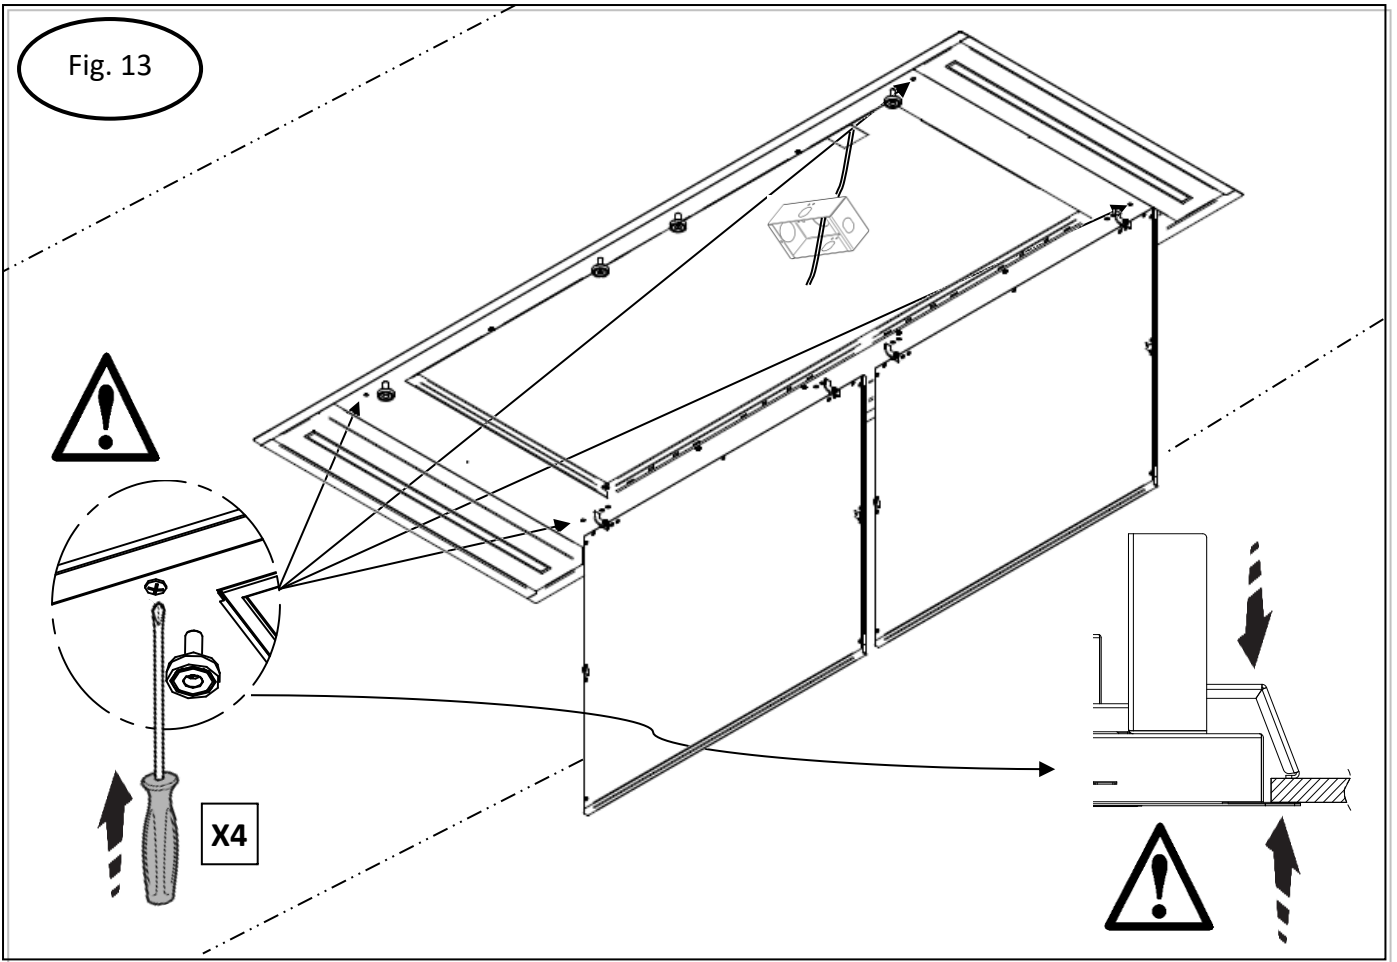

Fig. 14
- Tighten all connecting screws between the bottom of the hood and the blower housing (fig.14).